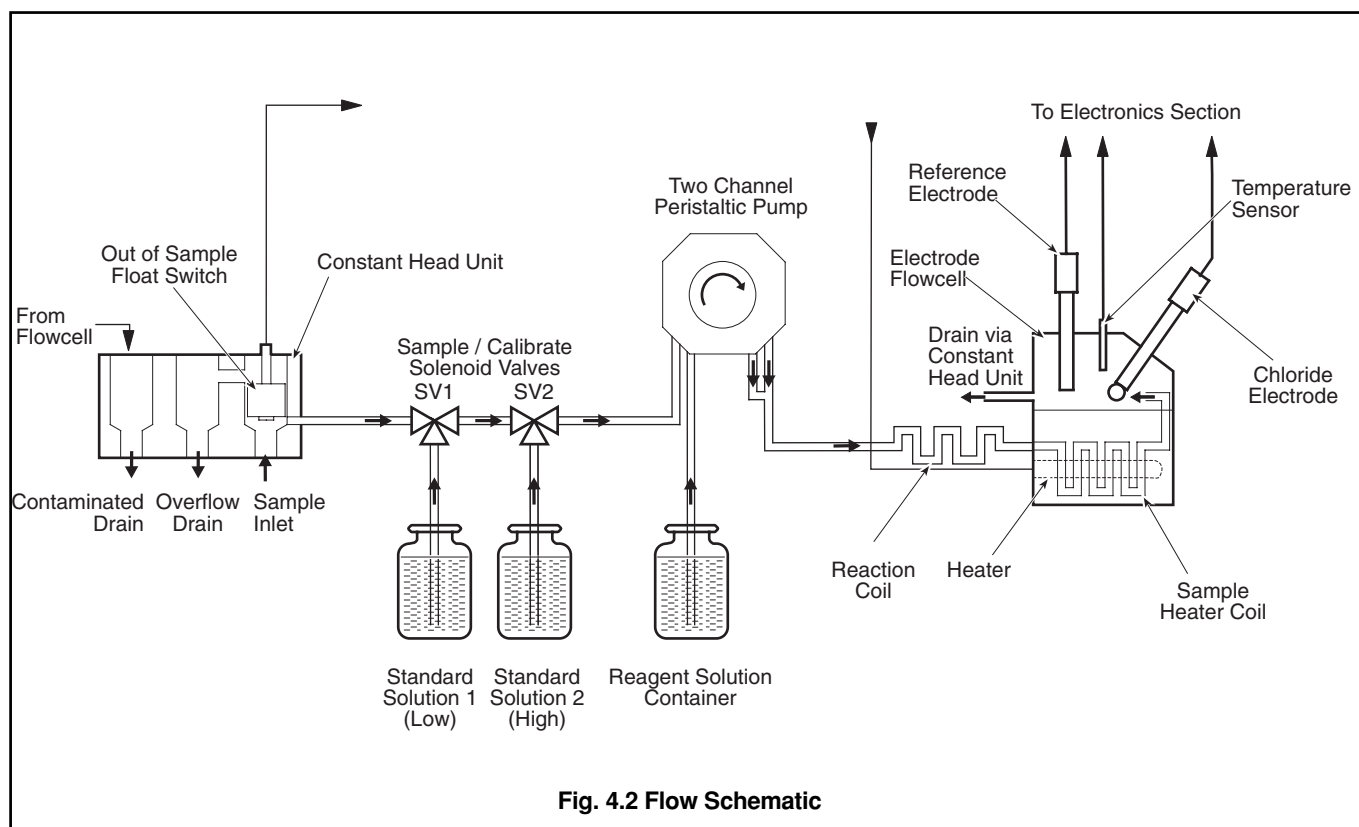

Fig. 4.2 Flow Schematic
4.2 General Operation – Fig. 4.2